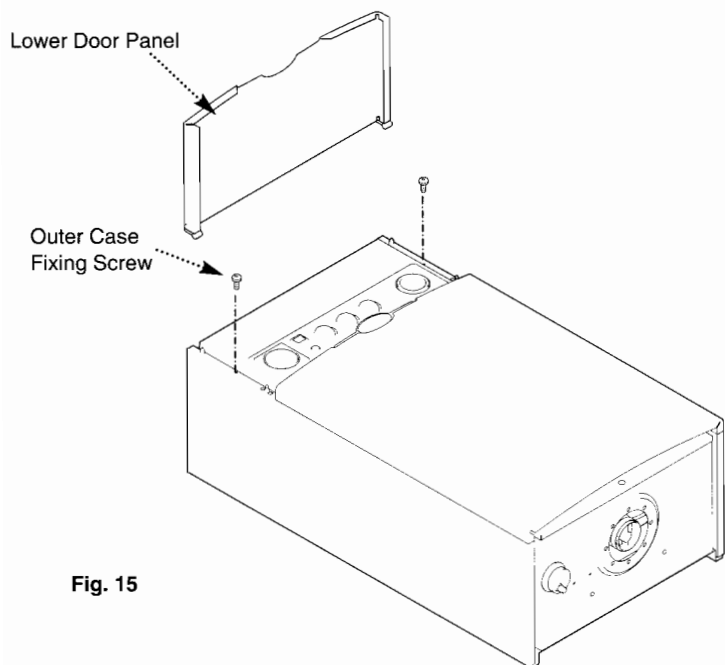
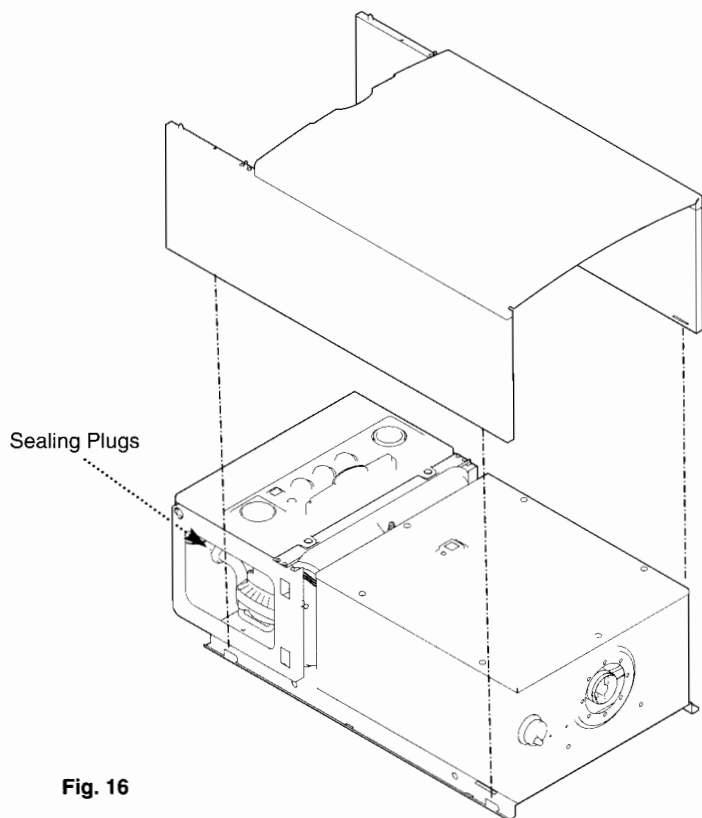

Fig. 15
Fig. 16
2. Hinge down the lower door panel to the horizontal and gently pull forward to remove (Fig. 15).
3. Remove the outer case fixing screws (Fig. 15). Slide the outercase upwards to disengage the hooks on the backplate and remove (Fig. 16).
4. Remove the sealing plugs from the copper bends (Fig. 16).